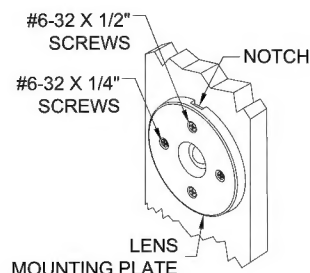

FIG. 6
9. Screw LENS MOUNTING PLATE to LED ASSEMBLY and J-BOX mounting holes with screws provided. Screw #6-32 x 1/4" SCREWS into side holes of LENS MOUNTING PLATE and #6-32 x 1/2" SCREWS into top and bottom. Make sure NOTCH at top of LENS MOUNTING PLATE is positioned upward as shown when mounted (FIG.6).